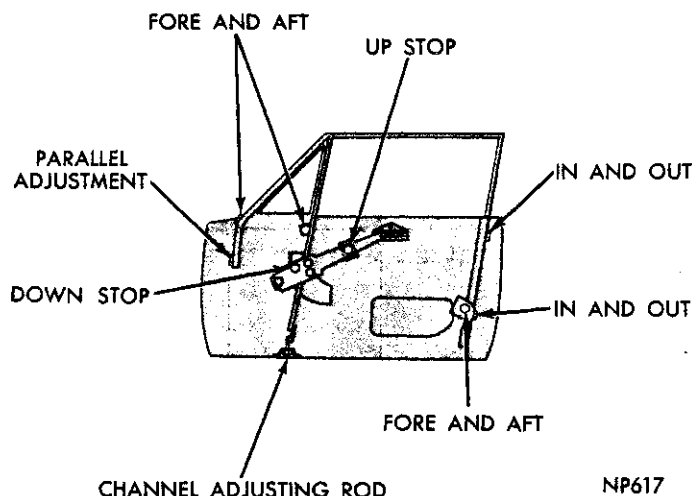

Fig. 27—Door Glass Adjustments—Hardtop
- (1) Loosen front run channel lower mounting screw (Fig. 27).
- (2) Move channel forward and slide glass out of channels.
- (3) Remove regulator arm from lift bracket.
- (4) Remove glass from door.
- (5) Push plug out of lift bracket rivet.
- (6) Pinch ends of rivet together and remove glass.
Door Glass Adjustments (Fig. 27)